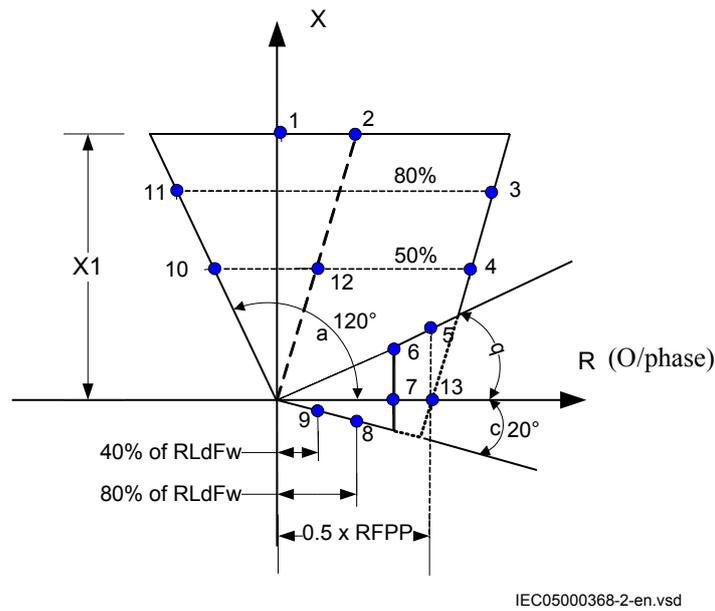
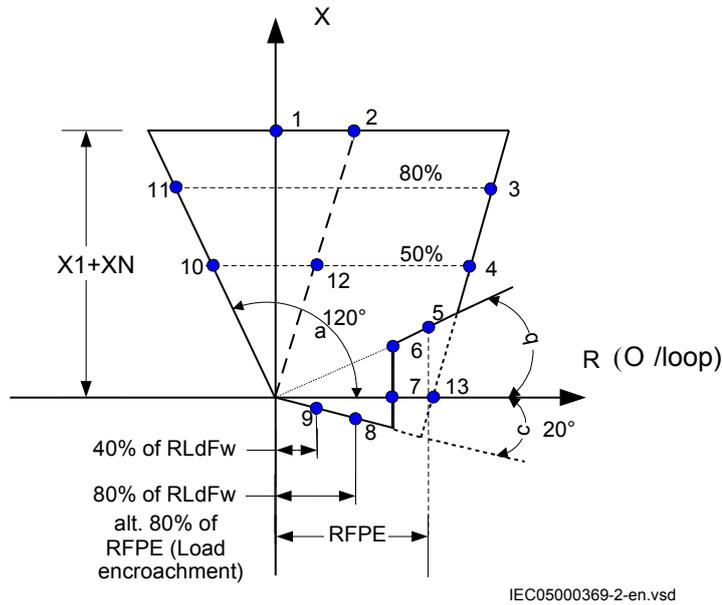

Figure 55: Distance protection characteristic with test points for phase-to-phase measurements
Figure 56: Distance protection characteristic with test points for phase-to-earth measurements
Table 21 is used in conjunction with figure 55.
Table 22 is used in conjunction with figure 56.
2. Apply the fault condition and slowly decrease the measured impedance to find the operating value of the phase-to-phase fault for zone 1 according to test point 1 in figure 55 and table 21. Compare the result of the measurement with the set value.
4. Repeat steps 1 to 3 to find the operating value for the phase-to-earth fault L3-E according to figure 56 and table 22
2. Apply the fault condition to find the operating time for the phase-to-phase fault according to test point 10 in figure 55 and table 21 for zone 1. Compare the result of the measurement with the setting t_{IPP} .
3. Repeat steps 1 to 2 to find the operating time for the phase-to-earth fault according to test point 10 in figure 56 and table 22. Compare the result of the measurement with the setting t_{IPE} .
When the load shaped characteristic is activated ($OperationLdCmp = On$) the test point for phase-to-phase faults is 12 in figure 55 and table 21 and for phase-earth faults according to P12 in figure 56 and table 22.